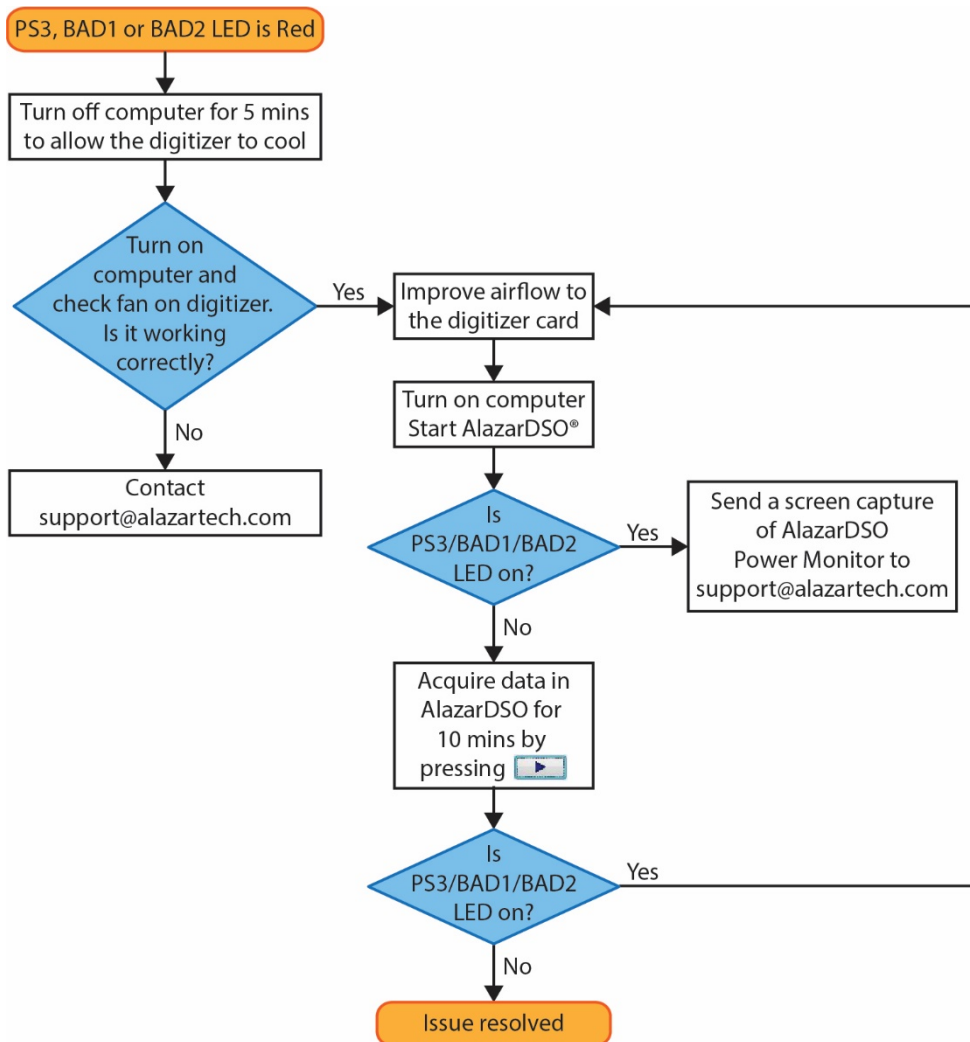

Figure 4 – Flowchart for Power Monitor Status LEDs
- **LED2 (PS3)**: Power Monitor error output from the board. This LED being red indicates that there is an overheating or power supply issue. Figure 4 – Flowchart for Power Monitor Status LEDs for steps to follow if this LED is red.
- **BAD1 (LED3)**: Power Monitor error output from the board. This LED being red indicates that there is an overheating or power supply issue. Refer to Figure 4 – Flowchart for Power Monitor Status LEDs for steps to follow if this LED is red.
- **BAD2 (LED4)**: Power Monitor error output from the board. This LED being red indicates that there is an overheating or power supply issue. Refer to Figure 4 – Flowchart for Power Monitor Status LEDs for steps to follow if this LED is red.